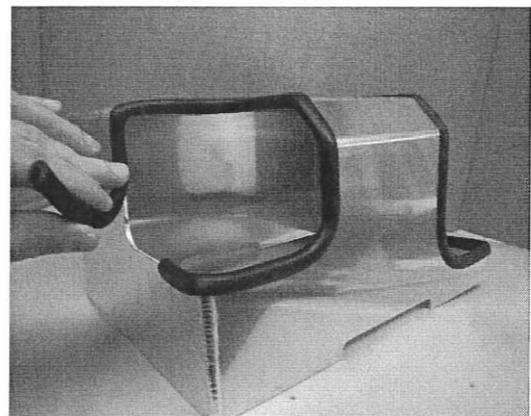

Figure 1
4. Install Rubber Edging around each terminal opening of the cover leaving no gaps. **(Figure 1)**